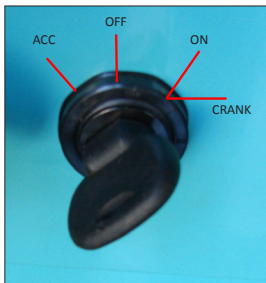

Figure 17. Ignition Key ON
2. On the trowel, turn the ignition key to the ON position (Figure 17). This will turn on the MCU. It is not necessary to crank or turn on the engine.